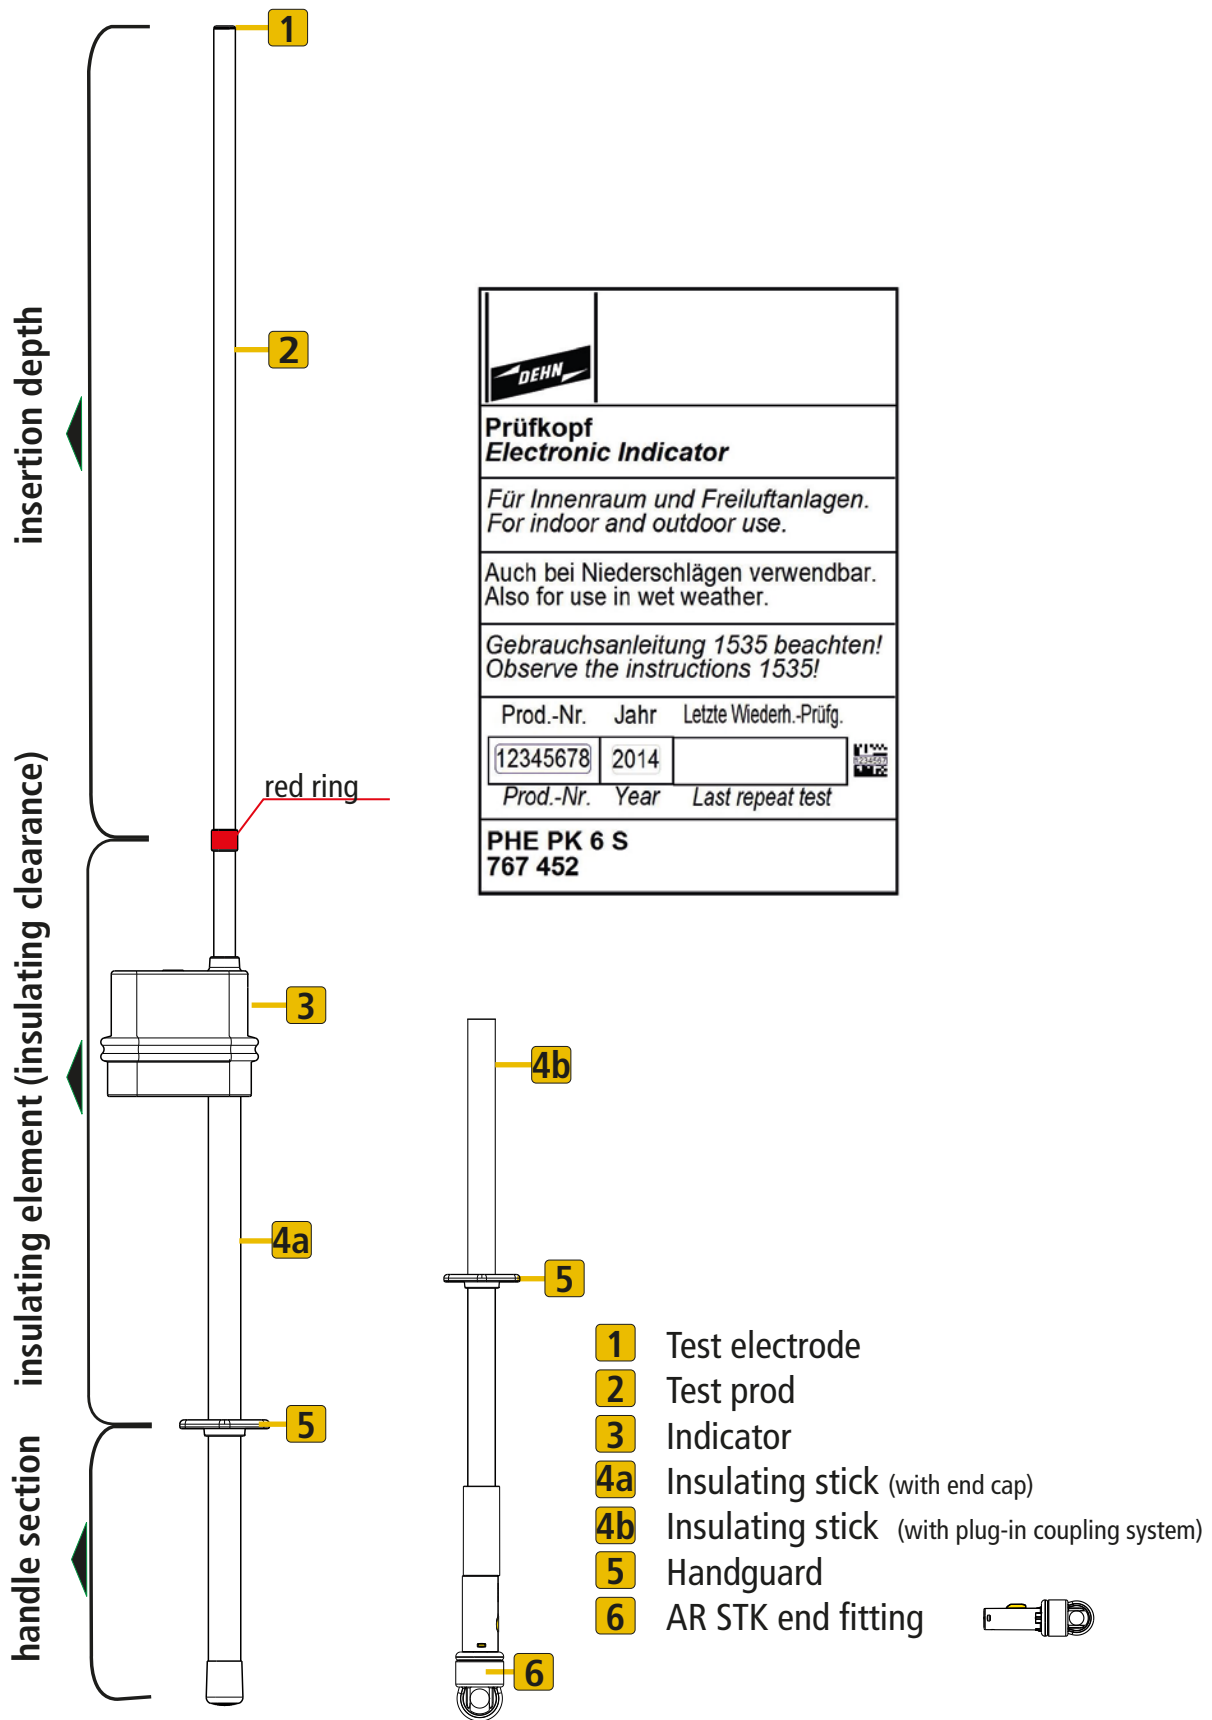

Fig. 1
Only assemble and use the **PHE** electronic indicator and the **IS M12...** insulating stick as shown in Figure 1, page 5.
4. Notes on safe operation (see also Fig. 1, page 5)